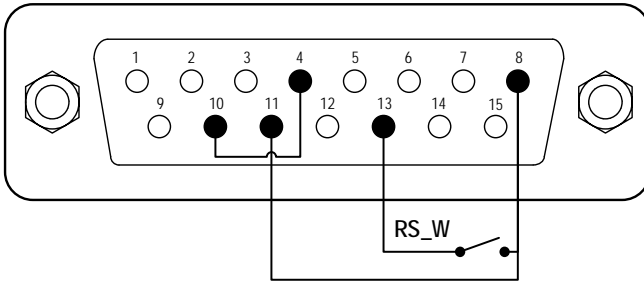
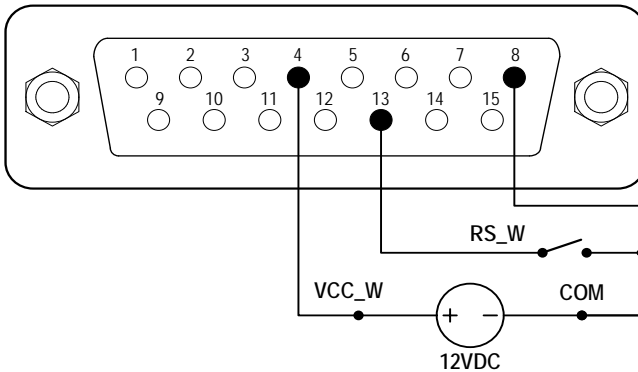

Figure 20. Logic Level Control with Internal 12V Power Source
Figure 21. Logic Level Control with External 5V or 12V Power Source
- 1) Turn the power off. Wire the external signal as shown on Figure 20 or Figure 21, and connect DB15 connector to the DB15 port on the rear of pump.